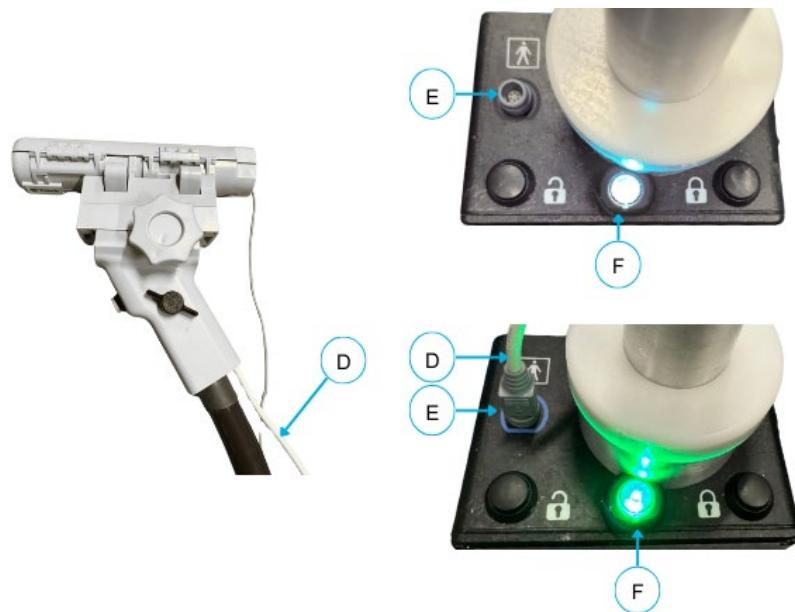

Figure 10-29: TRUS Cradle Cable Connection
4. Locate the cable connection port (**E**) on the top left corner of the Motor Box (**Figure 10-29**).